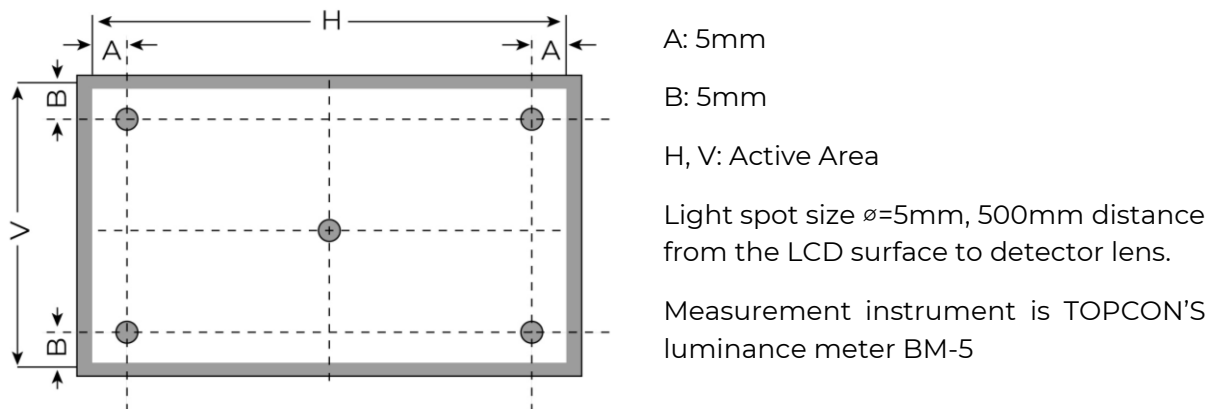

Figure 2. Measuring method for Contrast ratio, surface luminance, Luminance uniformity, CIE (x, y) chromaticity
| Luminance Uniformity       | $\delta$WHITE | $\varnothing=0^\circ$Ta=25 °C                     | -     | 75    | -     | %                 | FIG 2. | 3    |
| CIE (x, y)Chromaticity | Rx                | $\theta=0^\circ$$\varnothing=0^\circ$Ta=25 °C | 0.575 | 0.615 | 0.655 | -                 | FIG 2. | 5    |
**Note 1.** Contrast Ratio (CR) is defined mathematically as below, for more information see Figure 2.
**Note 2.** Surface luminance is the LCD surface from the surface with all pixels displaying white. For more information see Figure 2.
**Note 3.** The uniformity in surface luminance  $\delta$  WHITE is determined by measuring luminance at each test position 1 through 5, and then dividing the minimum luminance of 5 points luminance by maximum luminance of 5 points luminance. For more information see Figure 2.